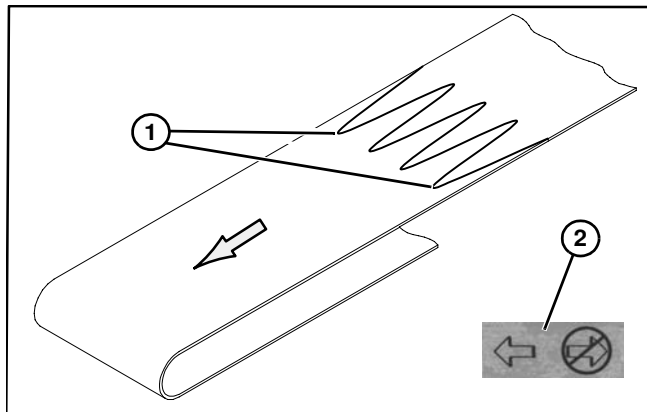

Figure 65
1. Orient belt so splice outer fingers (**Figure 65, item 1**) point in the direction of belt travel as identified by the conveyor directional label (**Figure 65, item 2**).
2. Orient belt so splice outer fingers (**Figure 65, item 1**) point in the direction of belt travel as identified by the conveyor directional label (**Figure 65, item 2**).